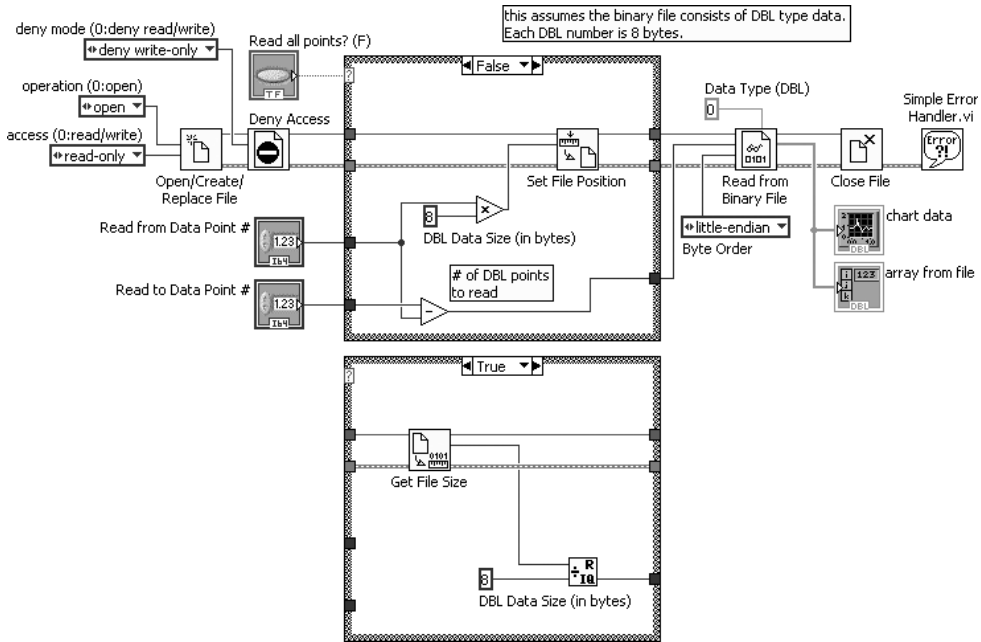

Figure 14.23
6. Can you do this activity without peeking at the block diagram shown in Figure 14.23? (Note that the TRUE case of the Case Structure is shown for illustration purposes.) Give it a try; you can always come back here to check your work.